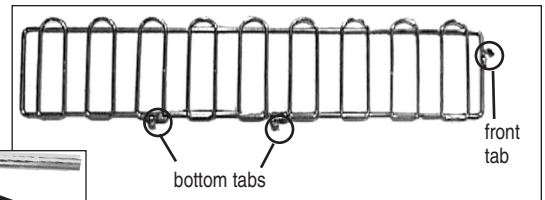

figure 6
- 1 To assemble the dividers, locate the two bottom tabs as shown in *figure 6*. Place divider on shelf with front tab of divider pointing toward the front upturn of shelf.